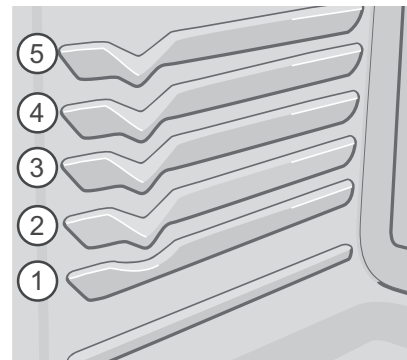

Figure 9: Rack positions
- For best results when baking cakes using two oven racks, place racks in positions 2 and 4. (Figure 9).